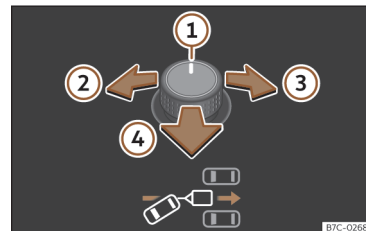
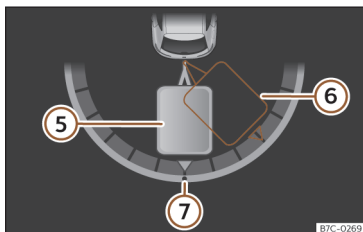

Fig. 168 Outside rearview mirror rotary control: adjust the trailer angle.
Fig. 169 Instrument cluster display: engage reverse.
Key to the >>> **Fig. 168**, >>> **Fig. 169**:
- Tilt the rotary control until the desired direction is reached >>> **Fig. 168**. A representation of the tow vehicle and trailer set is shown on the instrument cluster screen for guidance purposes >>> **Fig. 169**.